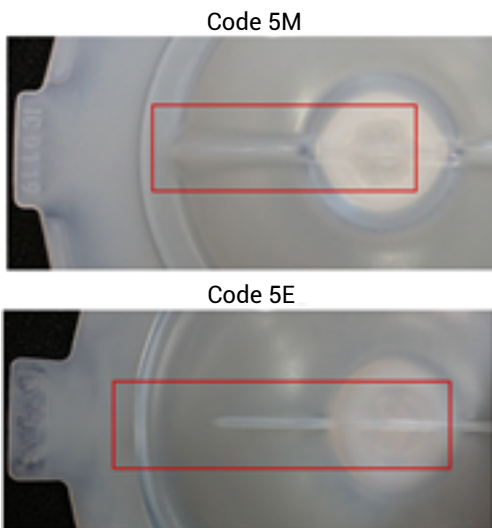

Fig. 1: Full-length weir sealing bead
3. Improved long-term sealing as result of new weir sealing bead design (Figure 1).